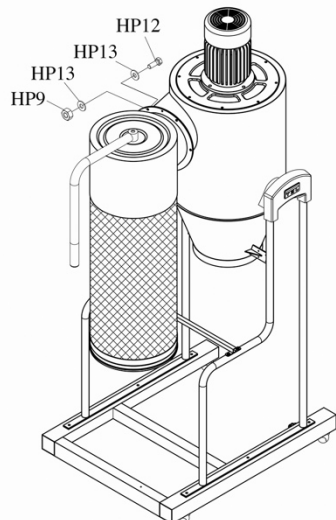

Figure 9
10. Place gasket (W) between canister filter and main housing. Install canister filter onto main housing and tighten with hex. cap screws (HP12) and washer (HP13) and nuts (HP9). See Figure 9.